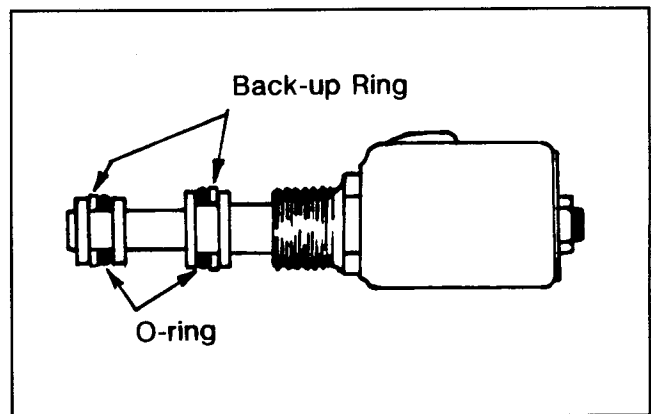

Figure 29
7. Reverse steps 1 - 5 to install solenoid valve. It is recommended to replace seals when reinstalling a used solenoid valve. Install seals as shown (Fig. 29).